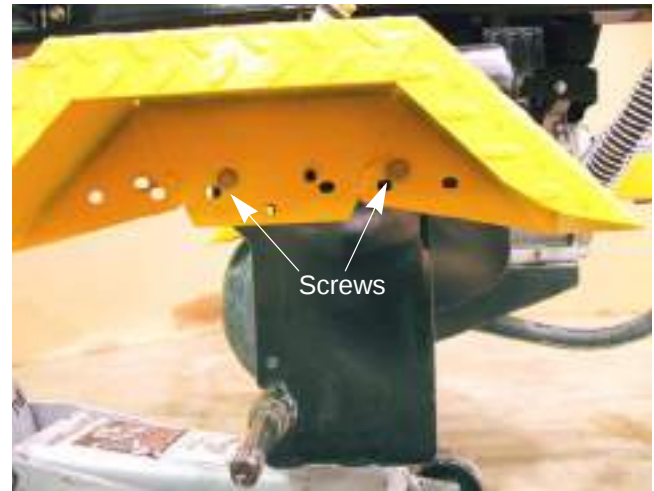

Figure 7.11
2. Remove both of the screws that hold the fender to the tank using a 1/2" wrench. See Figure 7.11.